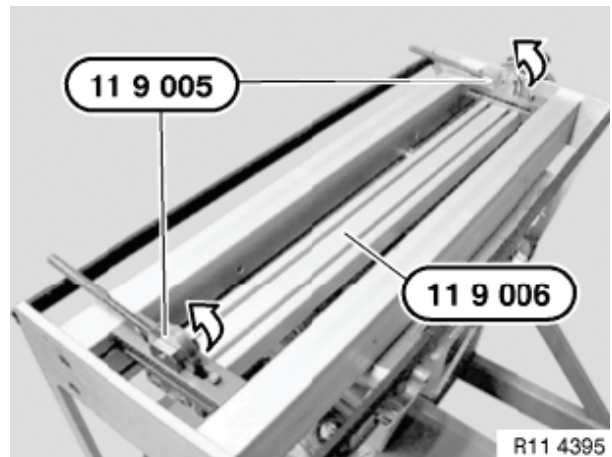

Figure 5-22
4. Lock special tool OEM No. 11 9 005 in direction of the arrows (Figure 5-22). Rotate cylinder head 180° into service position.